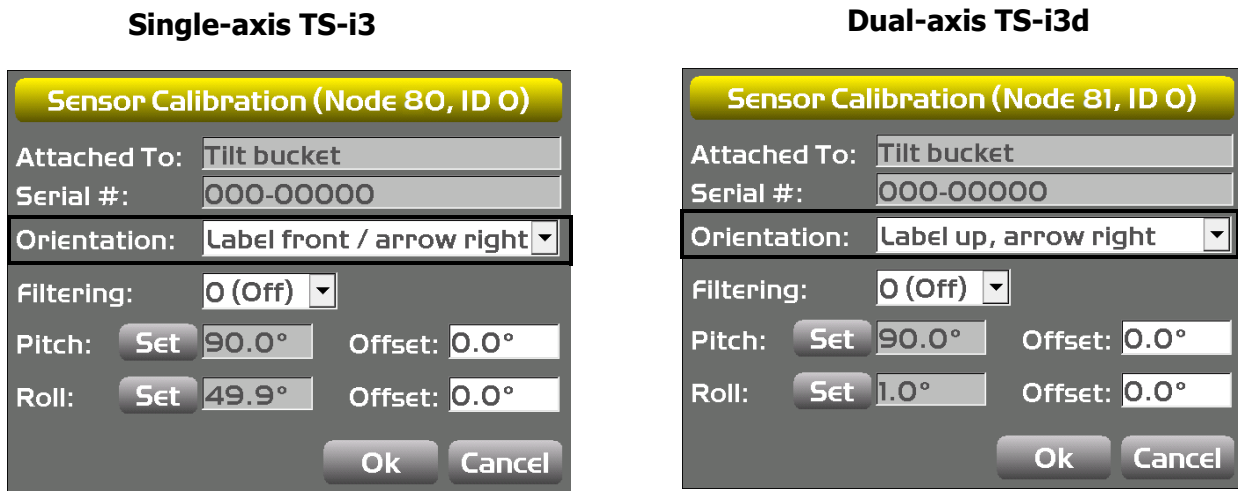

Figure 76: Select Tilt Sensor Orientation
8. Select the sensor's **Orientation** based on this position (Figure 76).